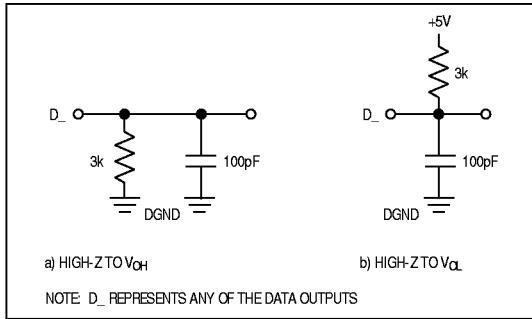

Figure 1. Load Circuits for Data-Access Time Test
**Note 6:** t3 and t6 are measured with the load circuits of Figure 1 and defined as the time required for an output to cross 0.8V or 2.4V.